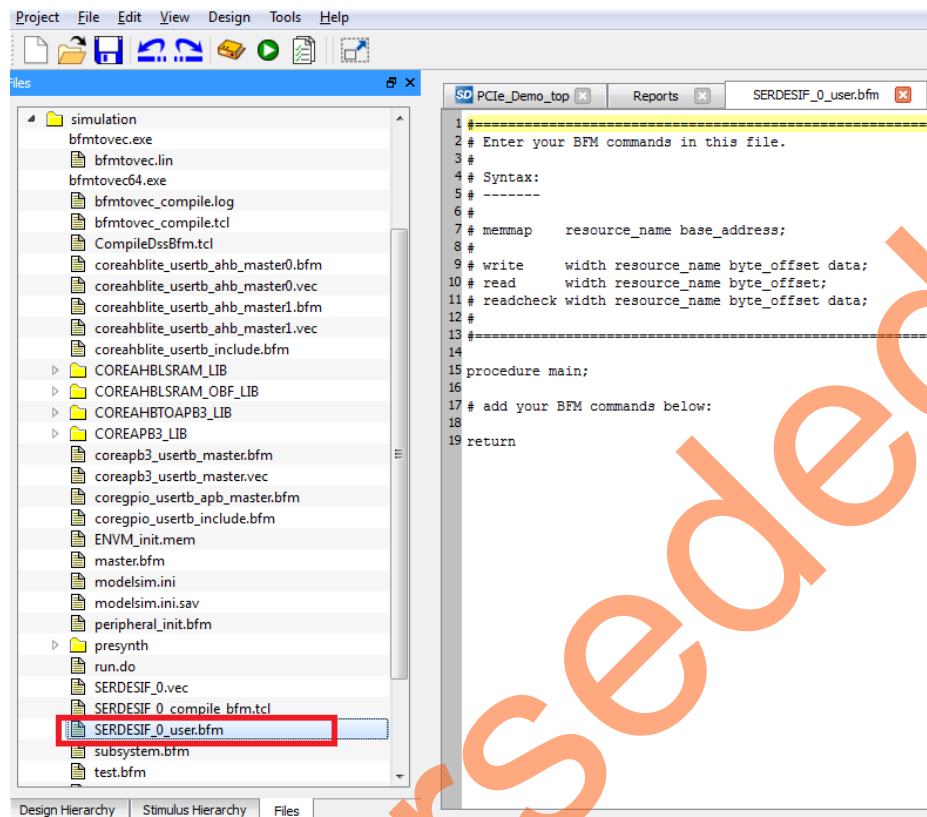

Figure 36 • SmartDesign Generated SERDESIF_0_user.bfm File
1. To open the SERDESIF_0_user.bfm, go to the **Files** tab > **Simulation** folder, and double-click the SERDESIF_0_user.bfm. The SERDESIF_0_user.bfm file is displayed as shown in Figure 36.